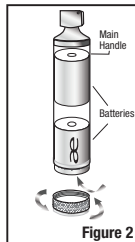

Figure 2
2. Replace with appropriate size battery, taking care to insert positive ends first. Screw bottom cap on and tighten (Figure 2).